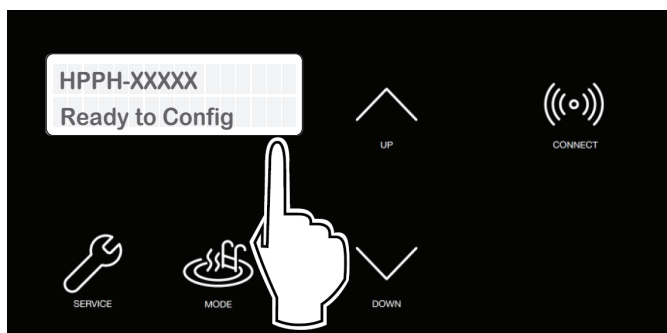

Figure 73. Wi-Fi Ready to Configure and HOTSPOT Identifier
- The CONNECT menu displays the Wi-Fi State, indicating "Ready to Config" wireless connection, and also the HOTSPOT identifier. See Figure 73.